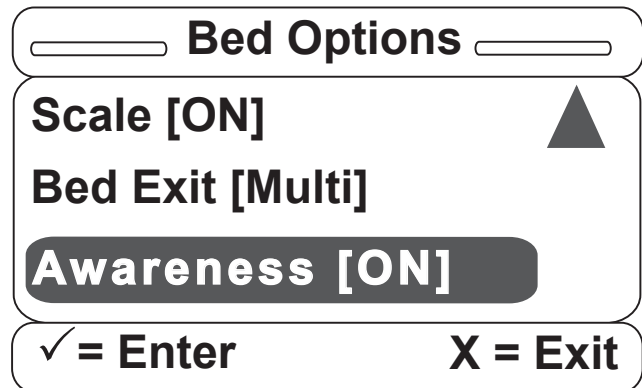

Figure S-17
17. Once the Awareness option is set, you will be returned to the Bed Options screen as shown in Figure S-17. Once there is text in square brackets next to each option in the Bed Options menu, all of your options have been set. You may re-enter any option and change the setting at any time.